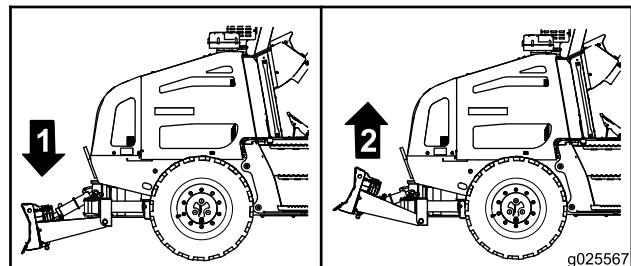

Figure 55
- To lower the backfill blade: Move the joystick forward (Figure 55).
- To raise the backfill blade: Move the joystick rearward (Figure 55).